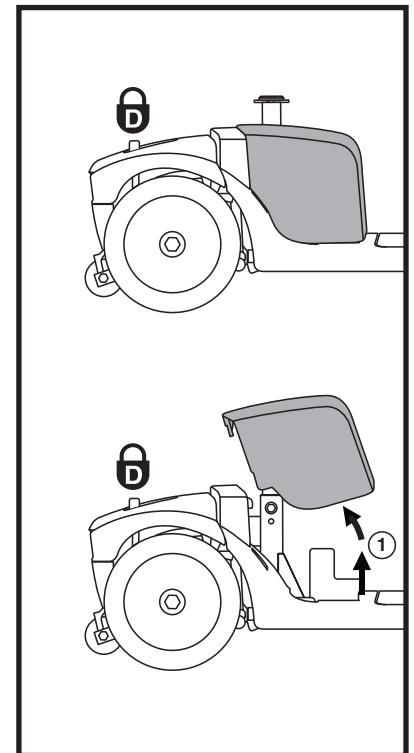

Figure 8. Battery Shroud Removal/Installation
1. Remove the seat and battery shroud. See figure 8.